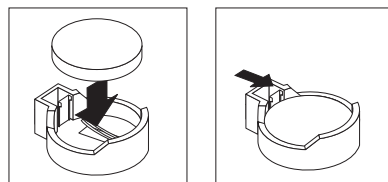

Figure 28. Installing the battery
- b. Press the battery down into the socket (see Figure 28) until it clicks into place. Make sure that the battery clip holds the battery securely.